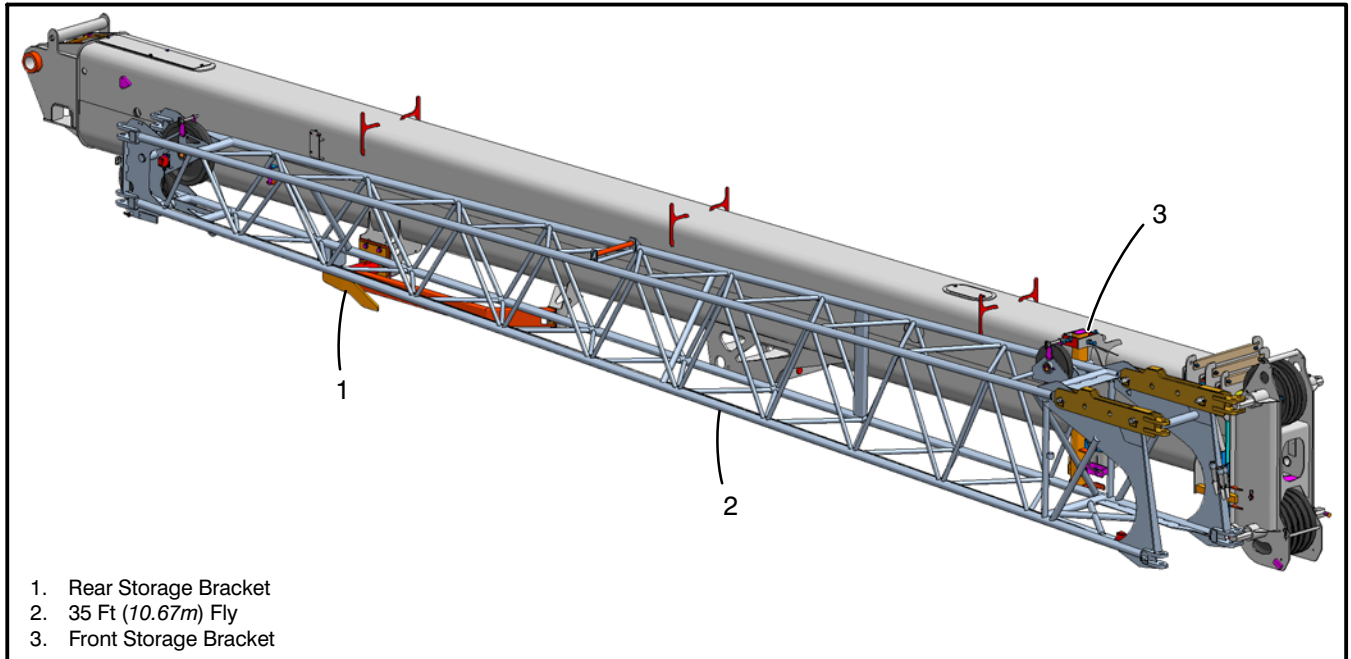

Figure 4–14
7. Install the offset connecting pins in the correct location for the desired offset angle. Use the information label, on the offset lattice fly, to determine the correct offset connecting pin locations for the desired offset angle of the fly. Refer to Figure 4–13.